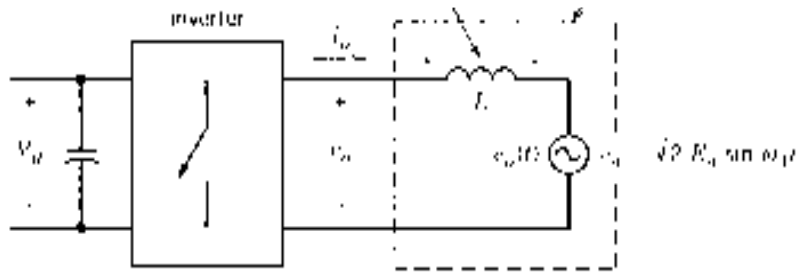

Figure 4
4. Figure 4 shows the inverter that contains a full-bridge voltage source converter.